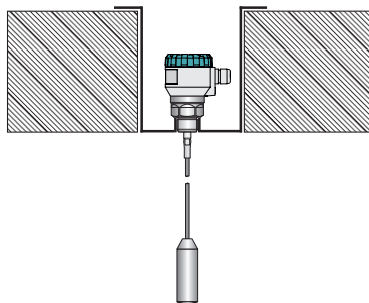

Fig. 9: Level meter installation on the roof of the concrete silo
- In the event that the thickness of the concrete is greater than the diameter of the hole, it is necessary to install the level meter into a countersink, see fig. 9.